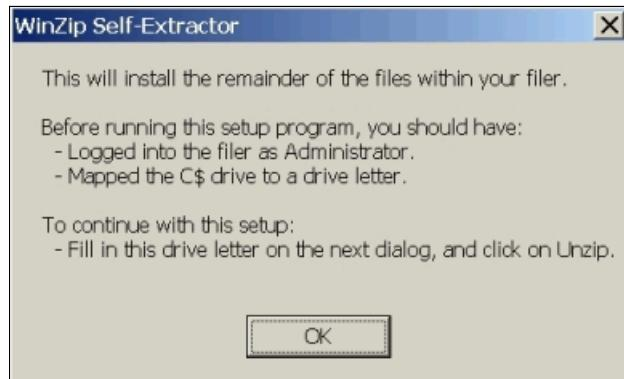

Figure A-5 Winzip self-extractor
- b. Double-click the files that you downloaded. A dialog box is displayed as shown in Figure A-5.